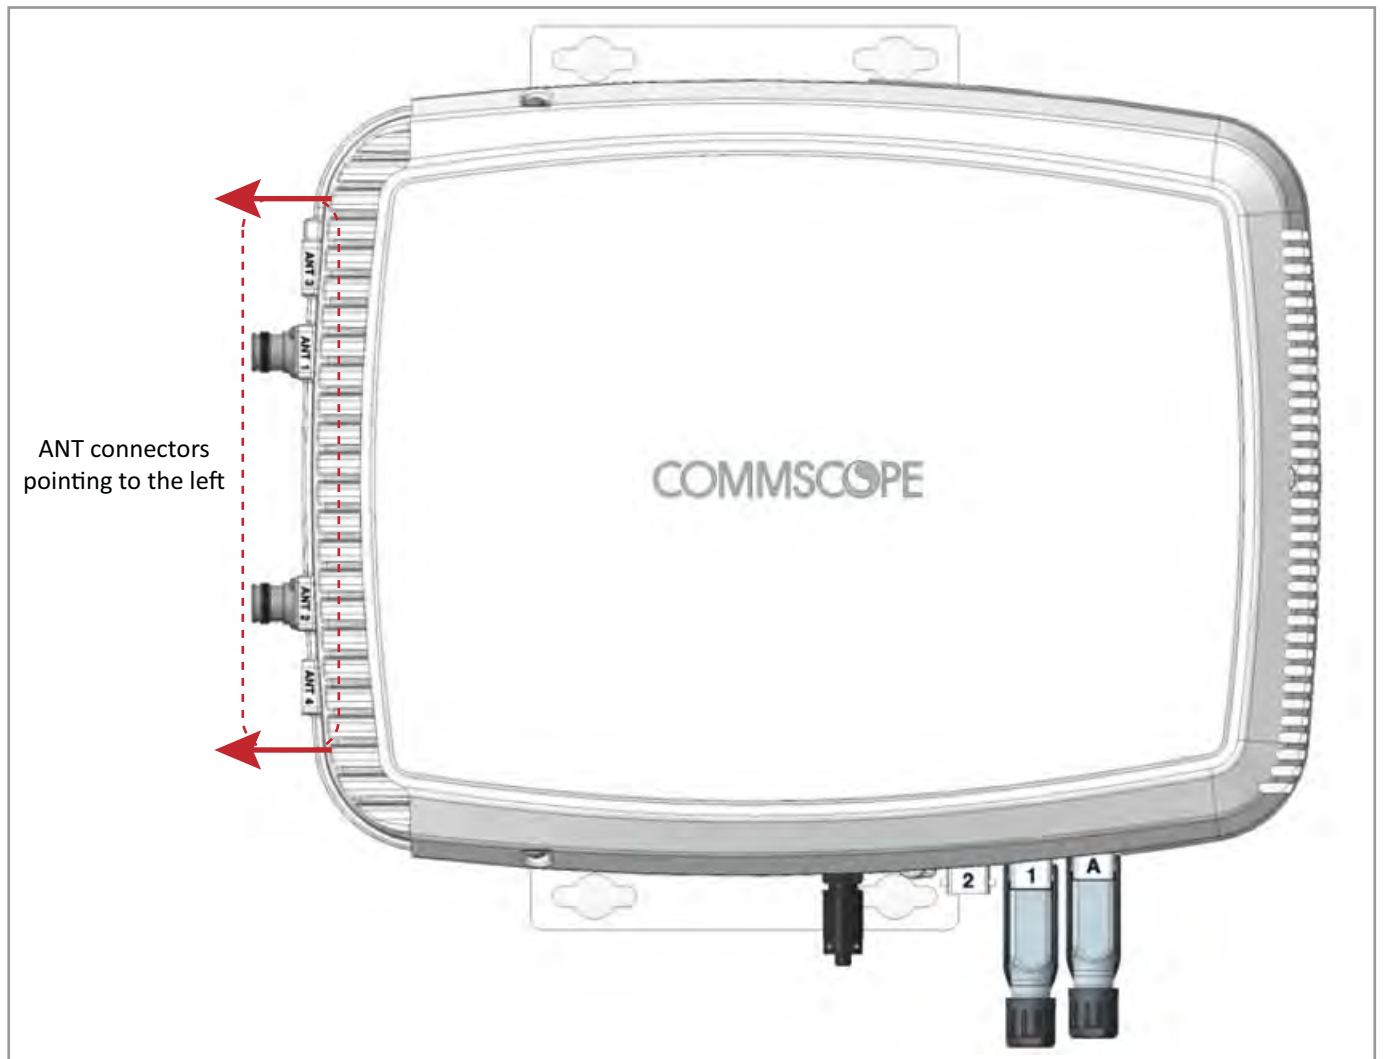

Figure 10. Mounting Orientation for a CAP L with the Optional Fan Kit (Flat Mounting Bracket Shown)
- **Wall Mount Orientation for a CAP L with a Fan Kit**—To allow for optimal access to the CAP L cables, it is recommended that a Fiber CAP L with the Fan Kit option be mounted with the ANT ports pointing to the left; see Figure 10.